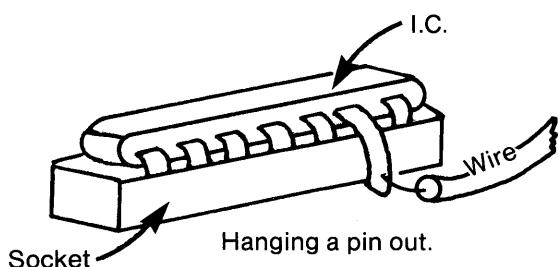
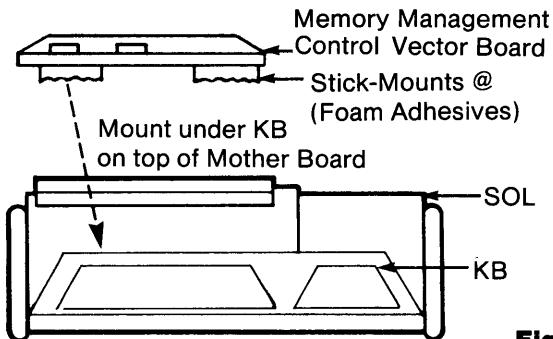

Figure 1.
Figure 2.
The required circuit changes can be made without cutting any printed circuit board traces. The technique of hanging the IC pin to be changed outside of the socket and soldering a wire to it can save much wear and tear on the circuit board (Figure 1). The two chip memory management control circuit can be assembled on a small vector board and mounted inside the Sol under the key-board as shown in Figure 2.
•Step 6. In step 6 the connection of the memory management circuit board is installed. Mount the memory management board and connect the circuit to VCC (+5 Vdc) and ground. This power comes from the Sol mother board. Connect to the following signals to the Sol. See figure 2 and drawing 2.